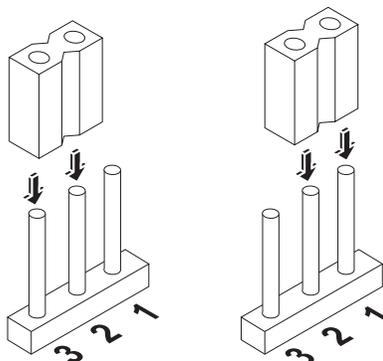

Figure 3-28. Moving the Jumper Switch
When you upgrade from a 400 MHz processor to a 533 MHz processor, after installing the new processor you must change a dip switch setting and move the jumper switch position (see Figure 3-28).
3. Using your thumbnail, carefully lift and remove the jumper switch from its socket (see Figure 3-28).
4. Replace the jumper switch on pins one and two of the jumper switch socket (see Figure 3-28)